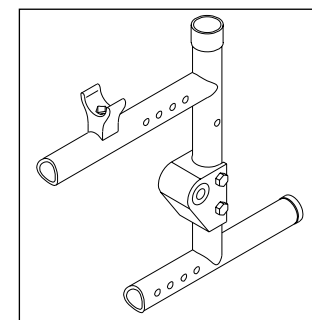

Fig. 13 Breezy
3. Seat Height - Breezy Series Only (Fig. 13)